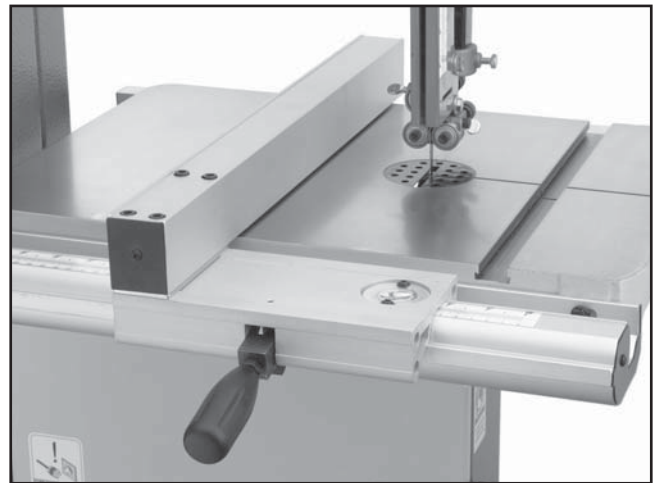

Figure 13. Correctly installed fence.
5. Pull the handle up and place the fence assembly on the fixed rail as shown in **Figure 13**.